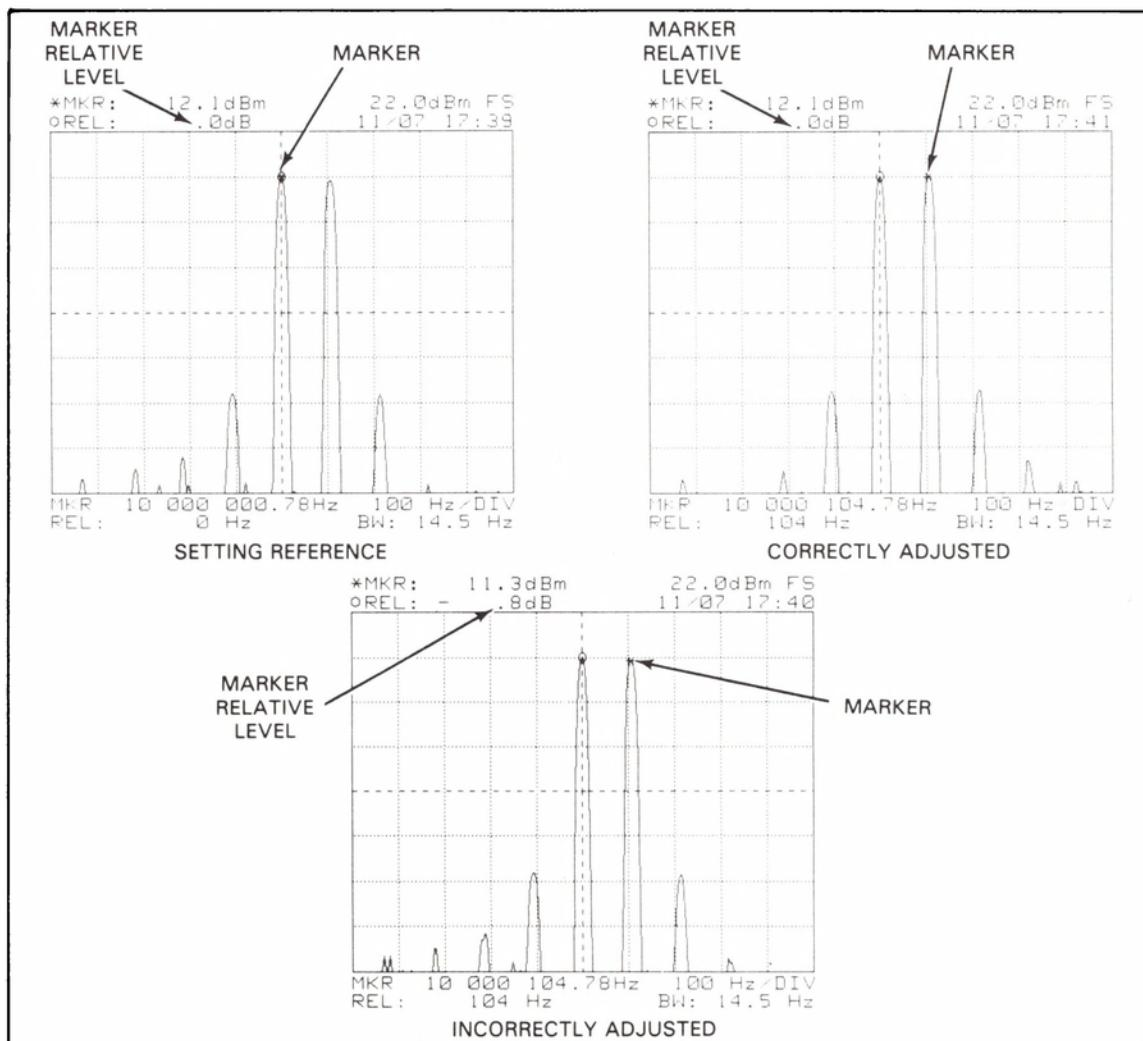

Figure 7-6. Intermodulation Distortion Test Adjustments
f. Move the -hp- 3582A marker to the peak of the signal at approximately 10 000 100.0 Hz and adjust the -hp- 3325A amplitude until the signal level matches that of the 10 MHz reference signal (See Figure 7-6).